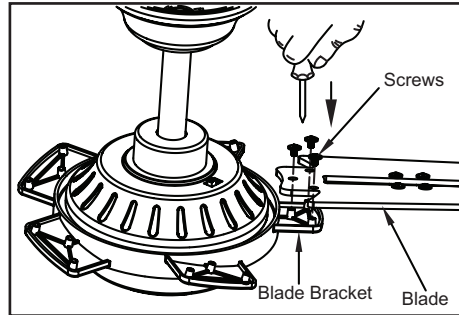

Figure 10
3. Attach blade to blade bracket using the screws as shown in Figure 10. Start a screw into the bracket. Repeat for the two remaining screws.